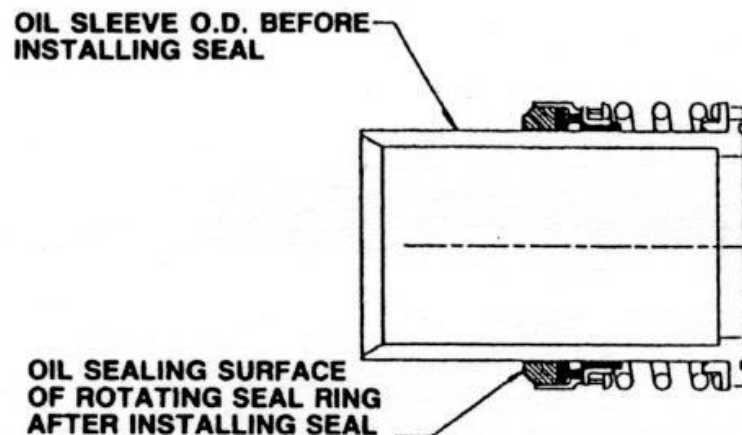

Figure 6
1. Oil sleeve O.D. as shown (See Figure 6). **Do not use never seize here.**